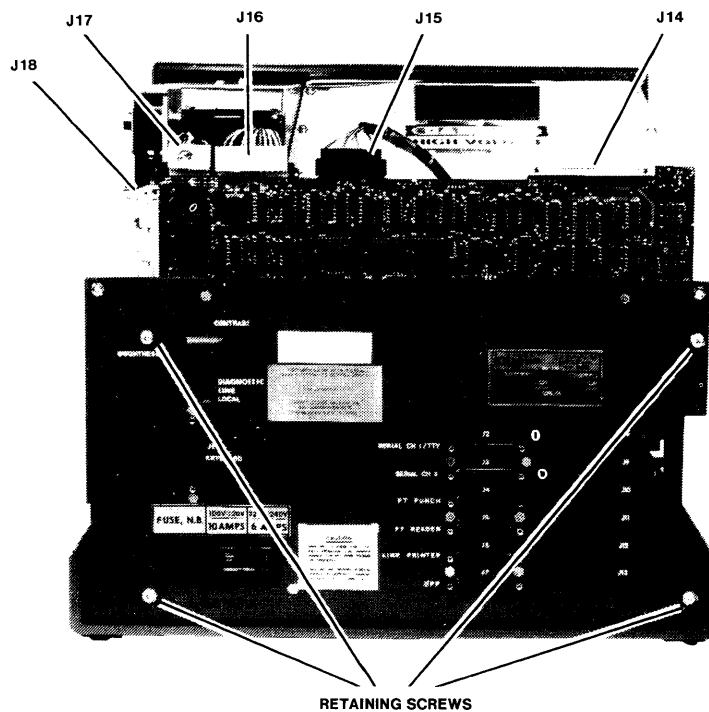

Figure 1. Intellec® Series II Mainframe Rear Panel
4. Refer to figure 1 and disconnect the cables from connectors J14, J15, and J16 on the top edge of the IOC board. If the mainframe includes an integral diskette drive, also disconnect the cables from connectors J17 and J18.